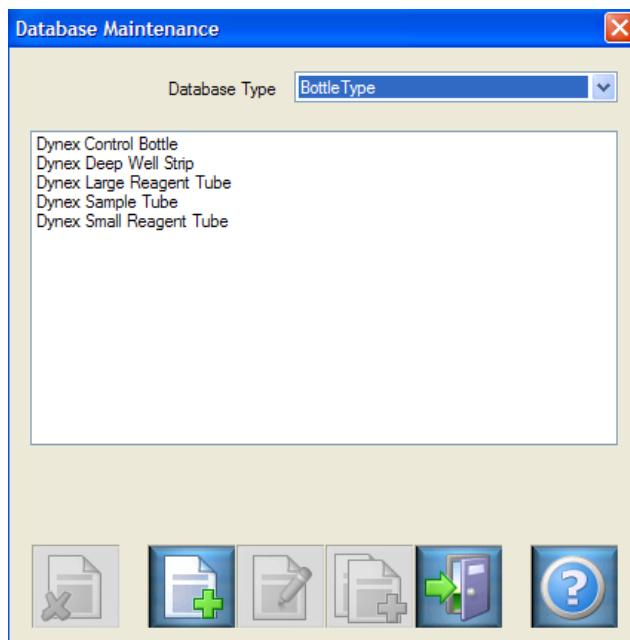

Figure 4-1: Database Maintenance Screen
2. Select the appropriate consumable category using the drop-down menu to present the Database Maintenance Screen (Figure 4-1). The Database Types are:
4. To edit a consumable, highlight the desired consumable and click the **Edit** button (Figure 4-1). Change the desired parameters, and save the changes.
5. To copy a consumable, click the **Copy** button (Figure 4-1). Copied consumables must be saved under a different name.
6. When finished editing the consumables database, click the **EXIT** button (Figure 4-1).